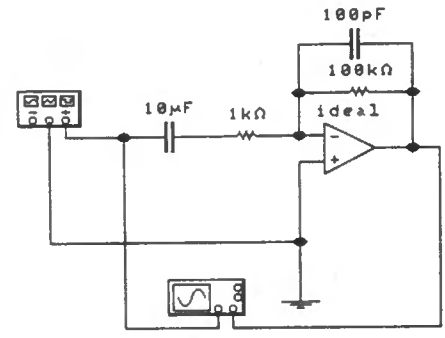

Fig. 5.24 Circuit for Assignment 5.2.
1. Connect the circuit shown in Fig. 5.24 with $C_1 = 10\mu F$, $R_1 = 1k\Omega$, $C_2 = 100pF$, and $R_2 = 100k\Omega$.